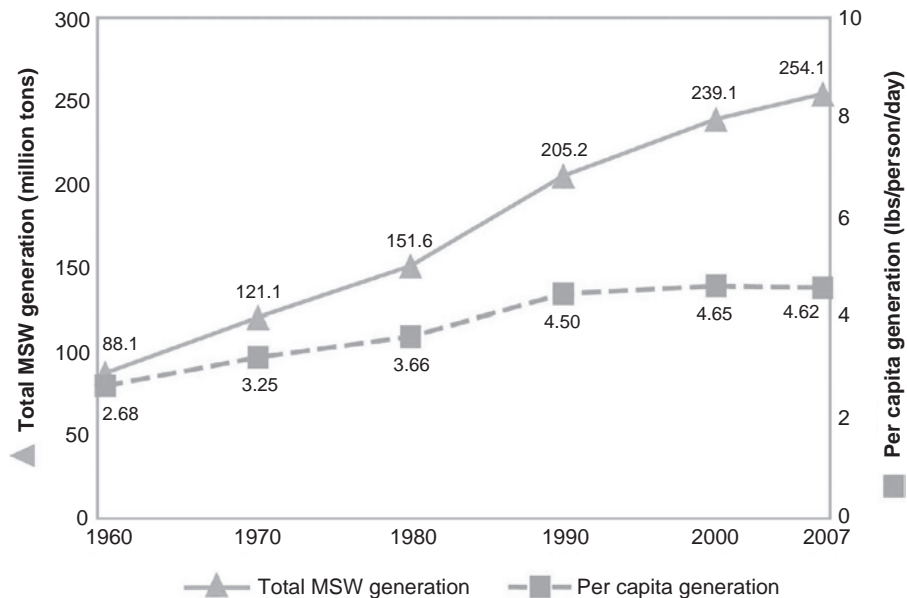

Figure 11.2
- Even if MSW had no other characteristic of concern, the quantity generated creates difficulties. The United States alone with its 100-million households generated 251 million tons (228 million tonnes) of MSW in 2006; of this, Americans recycled only 61 million tons (55.3 million tonnes) (excluding composting). Compare this to 1960, when America produced only 88 million tons (79.8 million tonnes) a year of MSW, about 35% of the 2006 amount.⁸ See Figure 11.2. Population increase is one part of the problem: in 1960, the average person generated only 2.7 pounds (1.2 kg) MSW a day as compared to 4.6 pounds (2.1 kg) in 2006. In earlier times most families lived in rural locations, and household waste was not a major problem. If every household today had to manage its own garbage, a crisis would quickly develop: a household of four creates 18.4 pounds per day (8.3 kg) or 6716 pounds (3046 kg) a year. And waste management – whether by incineration, landfilling, or recycling – is expensive. The amount American communities pay for waste management is second or third only to spending on education and police protection.